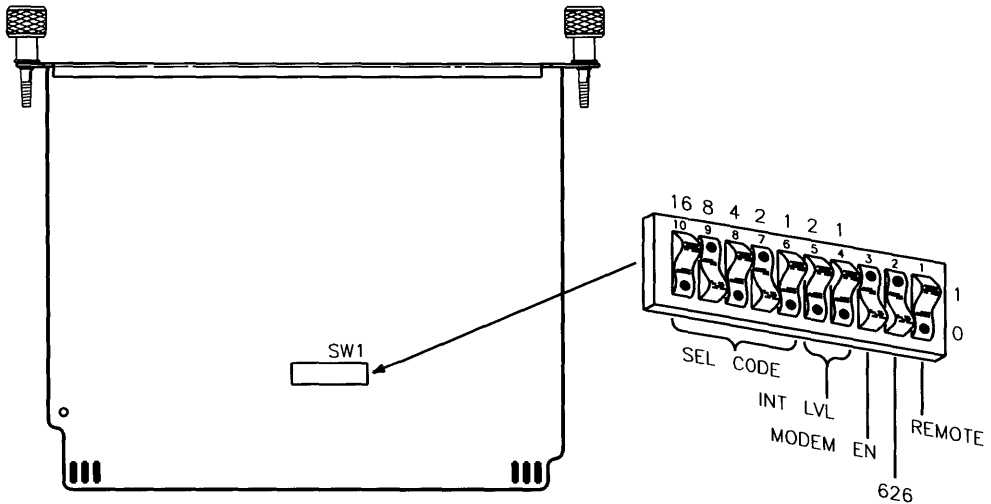

Figure 5-31.
- a. Find the group of switches labeled SW1 by referring to Figure 5-31. Switches 6 thru 10 in this group determine the select code.
- a. Find the group of switches labeled SW1 by referring to Figure 5-31. Switches 4 and 5 in this group determine the interrupt level.
- a. Find the group of switches labeled SW1 by referring to Figure 5-31. Switch 3 in this group is the MODEM ENable switch.
- If you intend to connect an HP 2686A *Laserjet* printer, an HP 92205A/C Hayes *Smartmodem*, or a uucp, set this switch to 1 as shown in Figure 5-31.
- If you intend to connect a terminal or the HP 39800/01A bar code reader, set this switch to 0, which is *opposite* that shown in Figure 5-31.
- a. Find the group of switches labeled SW1 by referring to Figure 5-31. Switch 2 in this group is the 626 switch.
- b. Set the 626 switch to *1* as shown in Figure 5-31.
- a. Find the group of switches labeled SW1 by referring to Figure 5-31. Switch 1 in this group is the Remote switch.
- If you are connecting a terminal to this interface and want this terminal to be the system console, set this switch to *1*, which is *opposite* that shown in Figure 5-31.
- If you are connecting a terminal to this interface but *do not* want this terminal to be the system console, or if you are connecting any other device, set this switch to *0* as shown in Figure 5-31.